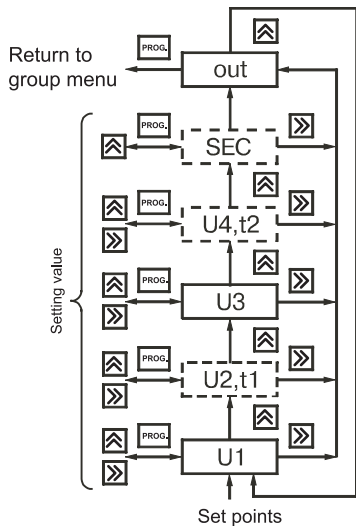

Figure 23.
6.1.6. «**GrouP_A**» group (figure 23) contains set points for logic devices **U1**, **U2 (t1)**, **U3** and **U4 (t2)**. Decimal point position in parameters **U1**, **U2**, **U3** and **U4** is defined by its position in **F** parameter.